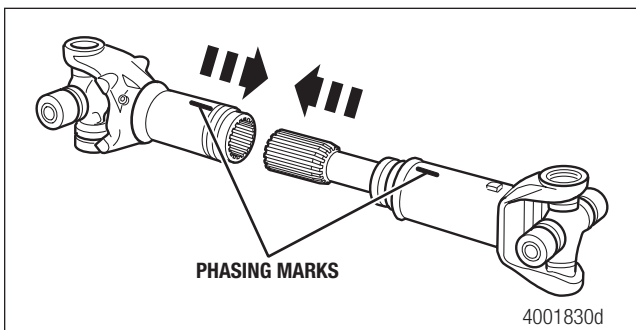

Figure 5.45
5. Align the slip yoke and spline shaft sections with the phasing marks you made on these sections during disassembly. Figure 5.45.
6. Install the spline shaft into the slip yoke until the splines fully engage. Figure 5.45.